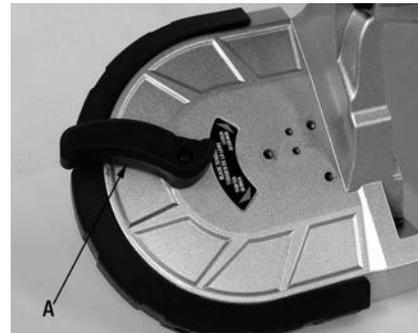

FIGURE 4
1. Release the blade tension by turning the blade tension lever (A) Fig.4 clockwise as shown.
5. Center the blade on both wheels, make sure the blade is positioned so the ball bearings do not come in contact with the teeth of the blade. Refer to Fig.6. Once the blade is properly positioned, tension blade by turning the blade tension lever (A) Fig.4 counterclockwise.